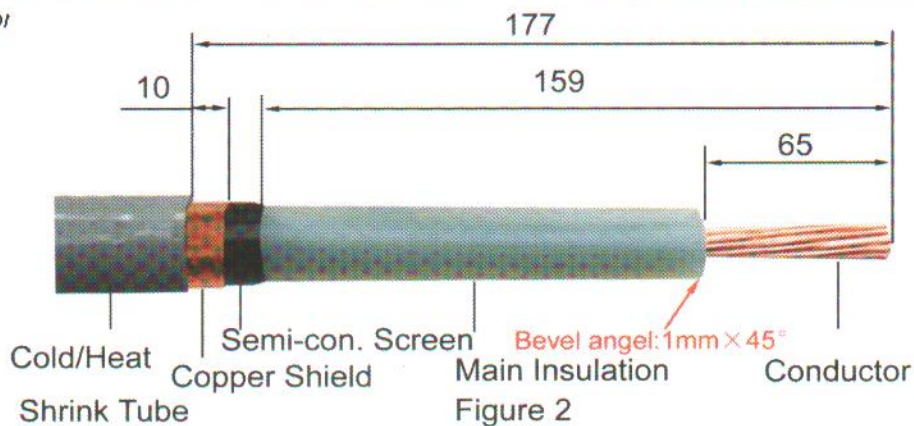

Figure 2
2.1. Peeling off the Cable (Figure 2)
Remove copper shield, semi-conductive layer and main insulation according to the dimensions given in Fig.2. Bevel the semi-conductive screen cut for 3mm to make smooth transition to main insulation.